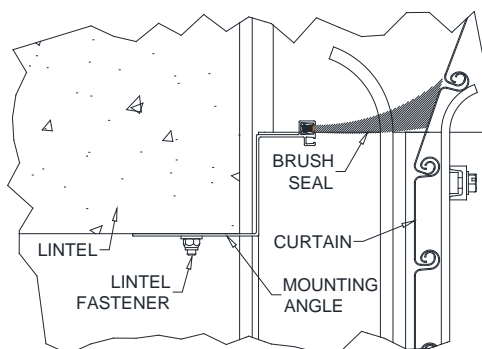

Figure 9.2 - "Z" Shaped Lintel Seal
4. Place the lintel seal at the bottom of the lintel with the brush contacting the curtain (in the closed position) with the bristles pushed to about a 45-degree angle. (See **Figure 9.2**)